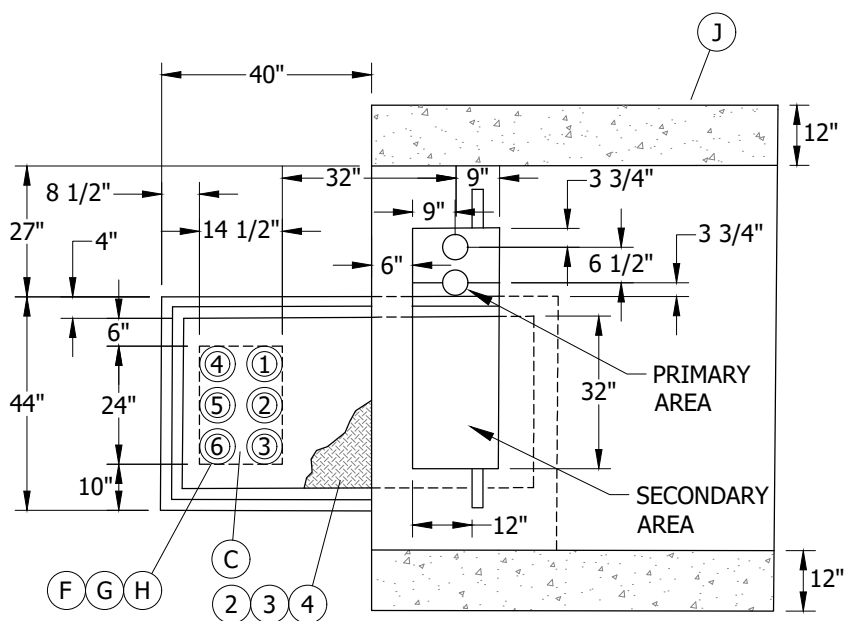

FIGURE 3
- (F) **FOR SECONDARY INSTALLATIONS IN A HANDHOLE,** ANY COMBINATION OF 3-INCH, 4-INCH, OR 5-INCH SECONDARY CONDUITS MAY BE USED, PROVIDED THEY DO NOT EXCEED THE TOTAL OF NINE OR THE MAXIMUM OF EACH SIZE CONDUIT (SEE FIGURES 3 & 4). TWO EXTRA 1-INCH OR TWO EXTRA 2-INCH CONDUITS MAY BE ADDED TO SERVE STREET LIGHT, RECREATION BUILDINGS, ETC.
- (G) WHEN THE NUMBER OF REQUIRED CONDUITS IS LESS THAN THE TOTAL SHOWN ON THE SKETCHES, INSTALL THE CONDUITS IN NUMBERED SEQUENCE AS SHOWN.
- (H) SEE DETAIL 1 FOR ADDITIONAL SECONDARY CONDUIT SIZES.
- (J) IN SOFT SOILS A CONCRETE BACKFILL (1-SACK MIX.) IS REQUIRED UNDER THE PAD, 12 INCHES BEYOND THE SIDE EDGES OF PAD AND 12 INCHES DEEP.
- (K) **PAD MUST HAVE A SUB-STRUCTURE: 3311-S MINIMUM.**